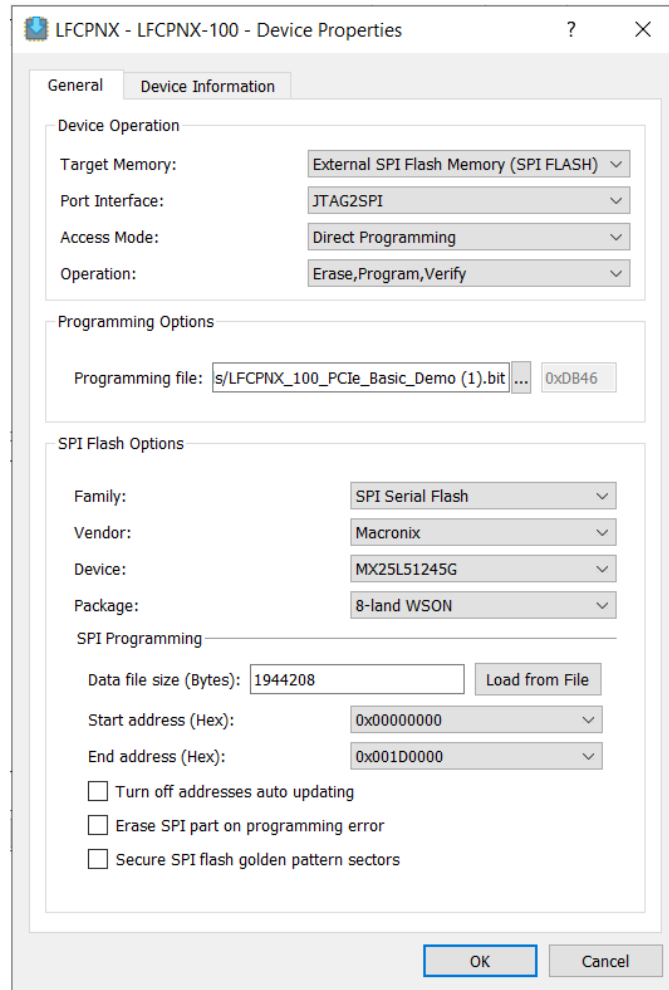

Figure 3.6. Device Properties Dialog for SPI Flash Programming Setting
- Click on **Fast Configuration** from the **Operation** column (Figure 3.5). The **Device Properties** dialog pops up (Figure 3.6). Change the **Target Memory** settings using the drop-down menu, and then you can see the device properties settings exactly as those shown in Figure 3.6.
- Browse to choose the programming file “LFCPNX_100_PCIe_Basic_Demo”.bit (Figure 3.6).